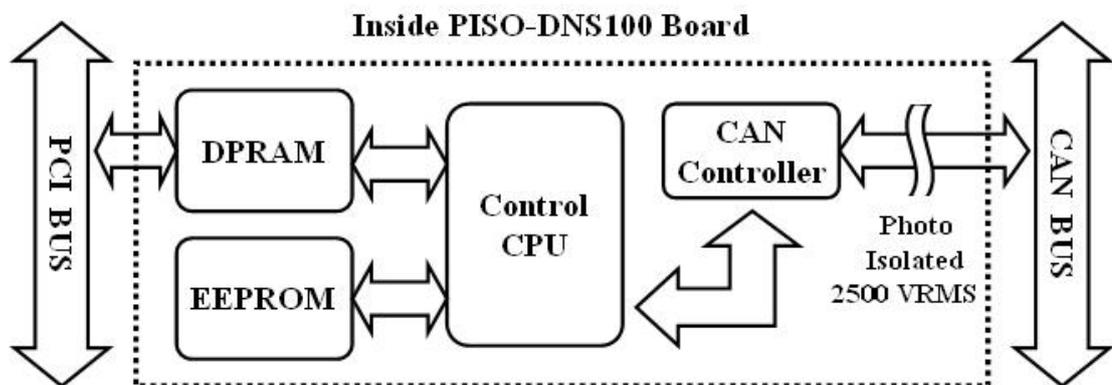

Figure 1.8.1 Block diagram of the PISO-DNS100(U)
The figure 1.8.1 shows the block diagram of the PISO-DNS100(U) board.